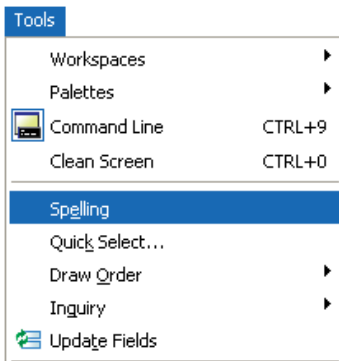

Fig. 6.40 **Spelling** in the **Tools** drop-down menu
2. Either *click* **Spelling** in the **Tools** drop-down menu (Fig. 6.40) or *enter* **spell** or **sp** at the command line.